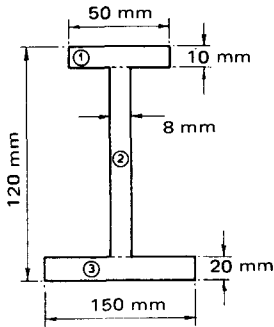

Fig. 1.33
**Example.** Find the area of the I-section shown in Fig. 1.33.